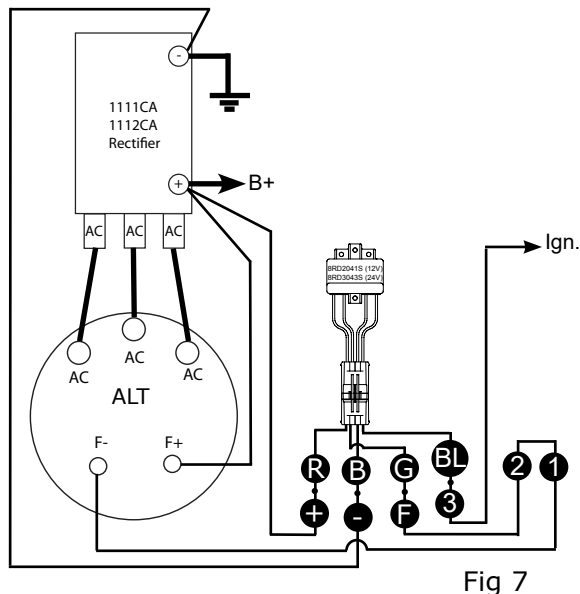

Fig 7
5) Wiring, please refer to steps below. Fig 7
A) Splice wires ① and ② together and apply shrink tubing to prevent shorting.
B) Connect wire ③ to (Blue BL / A Pin) on voltage regulator.